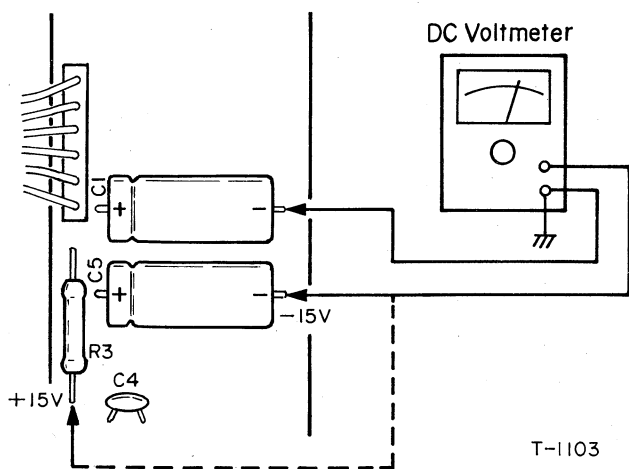

Fig. 5-4 Power Supply Voltage Test Points
3. Change the Test Point to between Resistor R3 (C4 side) and C1 (-) ground. See Fig. 5-4.